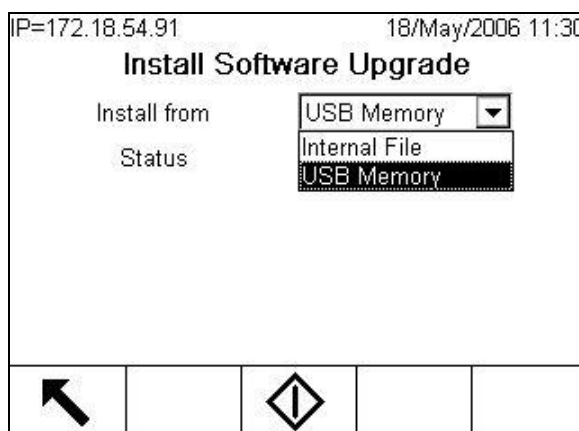

Figure 4-5: Firmware Upgrade From USB Memory
5. With focus on the Install from box, press ENTER, and use the DOWN arrow key to highlight USB Memory, as shown in Figure 4-5, then press ENTER to make the selection.